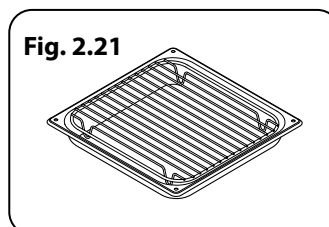

Fig. 2.21
- Two grill pans with trivets (**Fig. 2.21**)